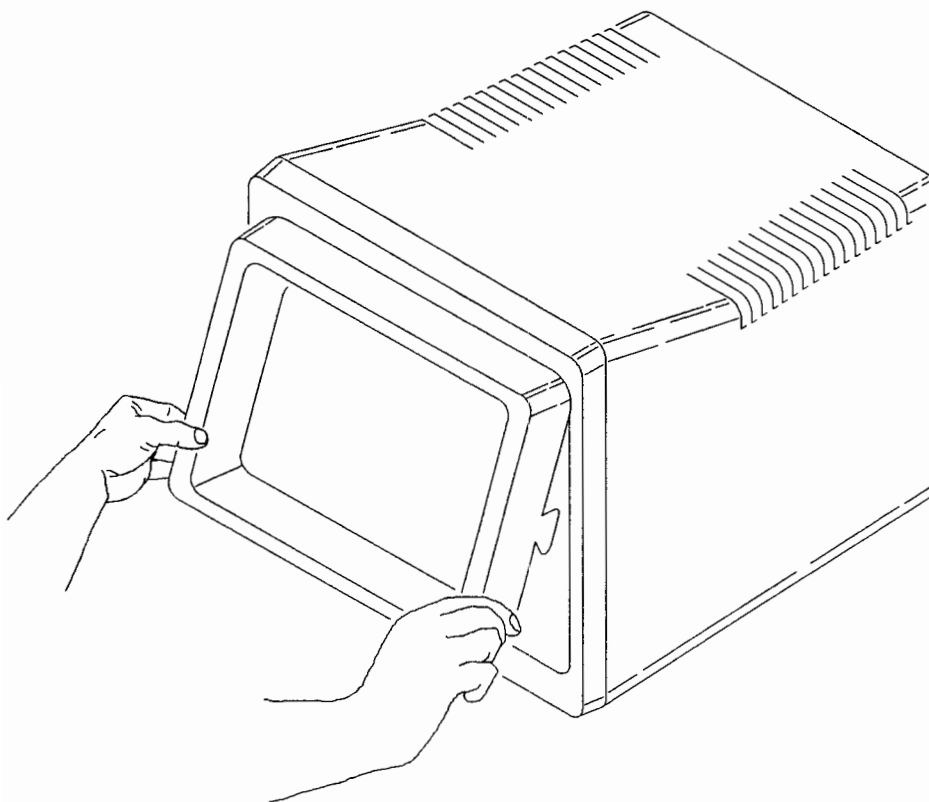

Figure 6-1.
2. Tilt your monitor screen up as far as it goes. Grasp the inner plastic frame by the lower corners, then pull it up and toward you in one even motion (Figure 6-1).